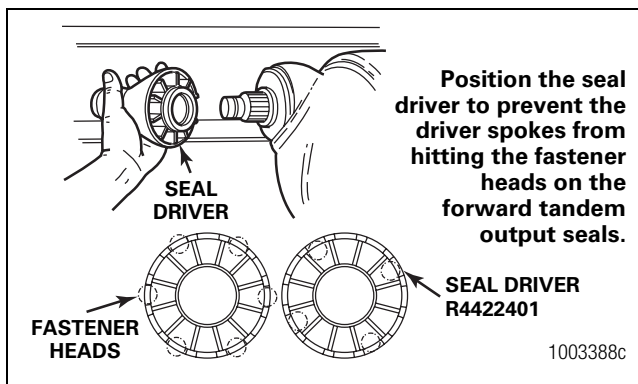

Figure 5.95
6. Position the driver and seal. Figure 5.95.